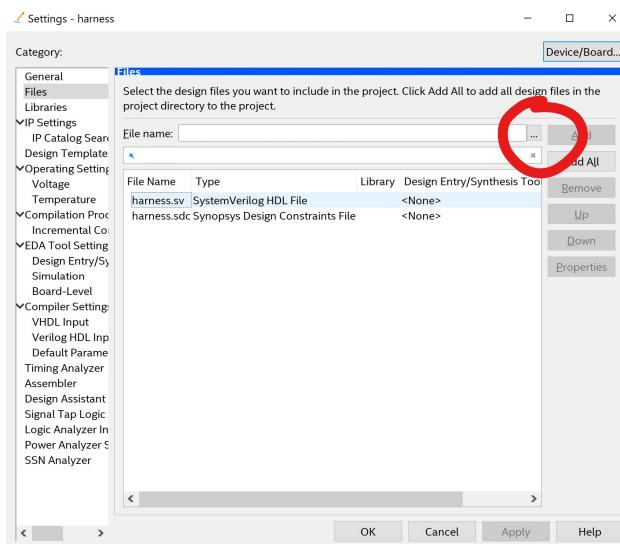

Figure 3: Adding files to Quartus project.
2. Go to *Project → Add/Remove Files in Project...* and click the ‘...’ icon to browse for files (see figure 3). Select the file(s) containing your processor implementation. The files should then be listed with the **harness** files. Click OK.